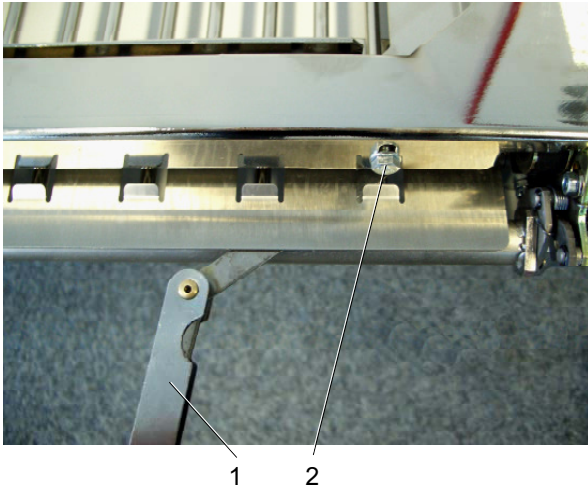

Fig. 62 Use of the feeler gauge
5. Set the feeler gauge (Fig. 62/1) to the desired distance.
7. Tighten the right-hand screw (Fig. 62/2) with open-end wrench and Allen key.